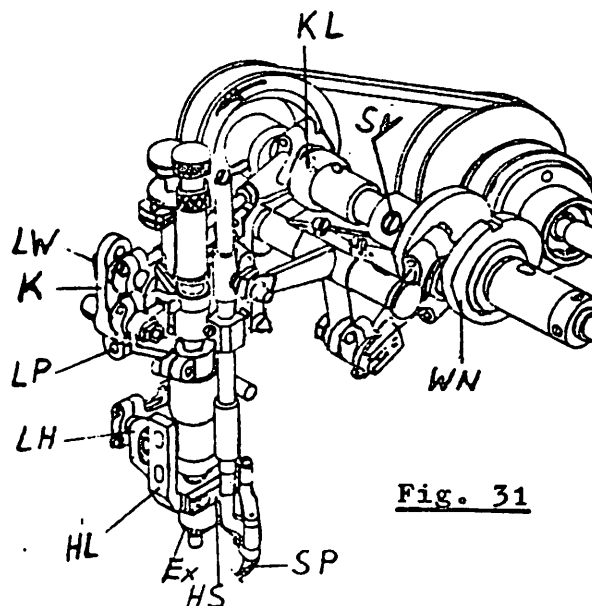

Fig. 31
The take-up lever movement is produced by the crankshaft "KL", which is adjustably connected to the needle drive shaft "WN" at the connection point "SY". The synchronism of the needle and the take-up lever movements can therefore only be adjusted at the connection "SY" (fig. 31).
- b) Set eccentric bush "EX" as shown in fig. 33. The highest point "X" of the eccentric motion in this case varies by 90° from the direction of sewing "NR" (see also fig. 31).
\*The height of the movable thread guide "SP" is set by a vertical displacement of the support "HL" (fig. 31). The lower edge of "SP" must be lower than the point of the second needle (at the latter's t.d.c.) by about the thread thickness "F", so that the cover thread can slide freely between the second and the third needle (fig. 34).
Release screw "BS" on the rocker arm "K" (see fig. 32) and, by swivelling the lever (the take-up lever must have reached its left-hand d.c. position), set the spacing of about 3 mm between the tip of the hook and the fourth needle (figs. 31 and 35). At the same time, a thread-thickness distance to the fourth needle must be set by rotating the take-up lever (fig. 35).
- e) Set the moment of the take-up lever movement. The crankshaft "KL" (for the drive of the take-up lever movement) is, as already described, connected to the needle drive shaft "WN" at the joint "SY" in a way which makes this connection adjustable (fig. 31).